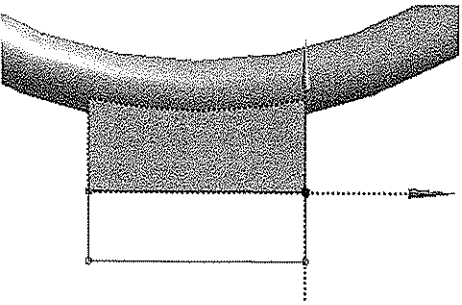

Figure 5-51 Partial view of the model with the newly created sketch on **Plane5**
- 42. Create a sketch for the second extruded feature by using the **Polyline** tool, as shown in Figure 5-51.